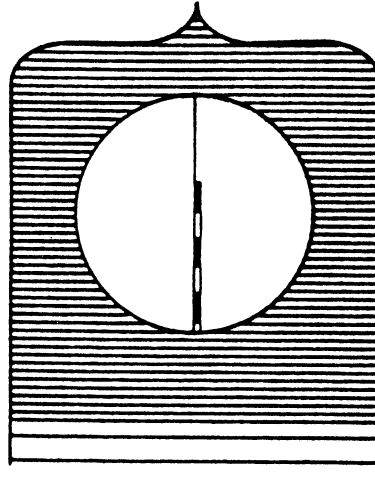

Fig 4-10. Compass user's view of direction stake.
- (1) Each squad leader places a baseplate stake to mark the exact location of his mortar.
- (2) The squad leader places the compass on top of the baseplate stake and rotates it until he can sight along the direction of fire.
- (3) The ammunition man designated to be the direction stake /aiming post man moves approximately 25 meters out in front of the mortar position with the direction stake. The squad leader, with the use of hand and arm signals, has the ammunition man place the direction stake exactly on the azimuth (fig 4-10).
- (4) The mortars are then mounted on this azimuth.
- (f) With the aid of the à-gunner, you move the bipod, if necessary, until you again have the vertical crossline of the sight bisecting the lens or reflector of the aiming circle. The mortar is laid accurately by elevating, traversing and crossleveling until the vertical crossline of the sight is bisecting the lens or reflector (fig 4-10).